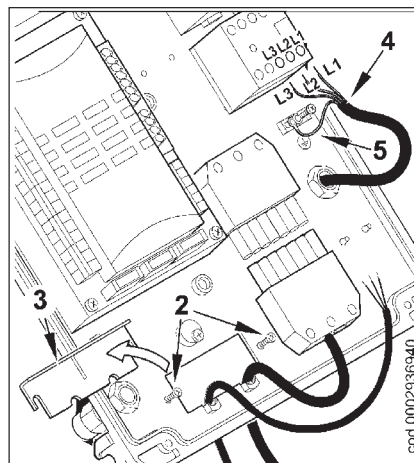

Fig. 2
- 2) Loosen the screws (2) and after removing the cable clamp plate (3), make the 7 pole plug and modulation control cable come through the hole (fig. 2). Connect the power supply cables (4) to the radio control switch, fix the earth cable (5) and tighten the cable gland.
When closing the burner, gently pull towards the electrical panel, putting the two ignition and ionisation cables slightly in tension, then arrange them into their housings (7) as in figure 2. This will ensure that the two cables do not get damaged by the fan during burner operation.